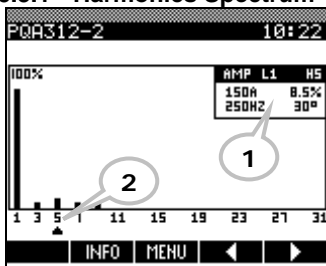
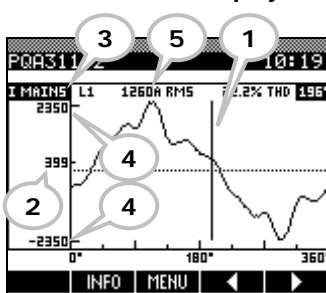

Figure 10: Typical Harmonic Spectrum Display
Figure 11: Typical Waveform Display
- Graphic display, covering harmonics (Figure 10) and waveforms (Figure 11).